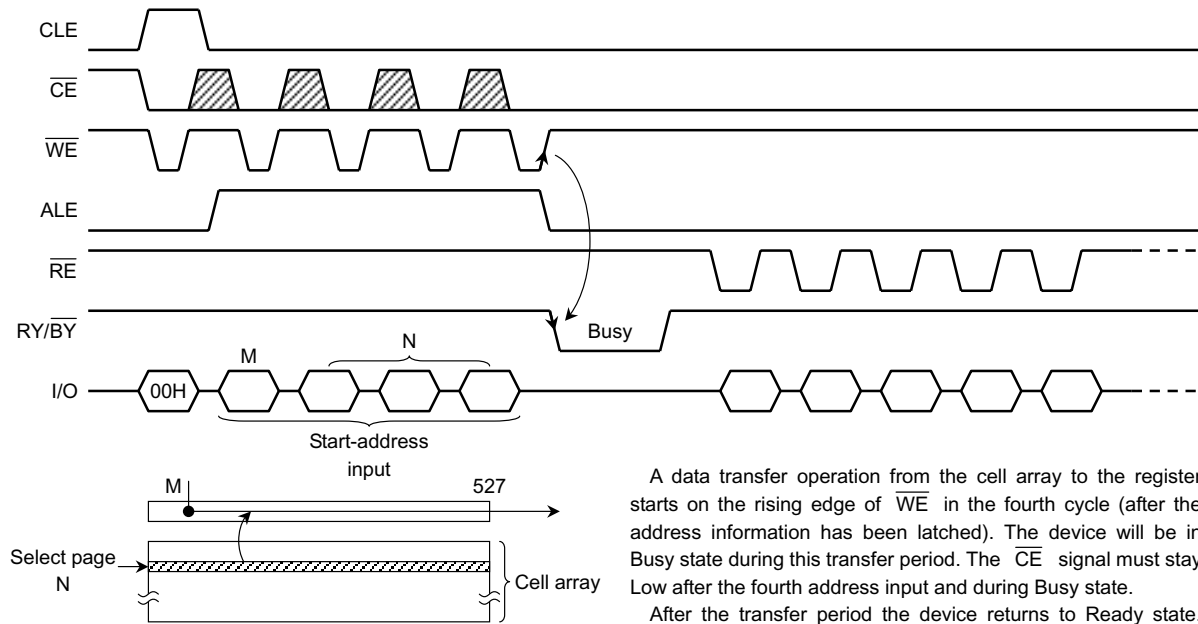

Figure 3. Read mode (1) operation
Read mode (1) is set when a "00H" command is issued to the Command register. Refer to Figure 3 below for timing details and the block diagram.